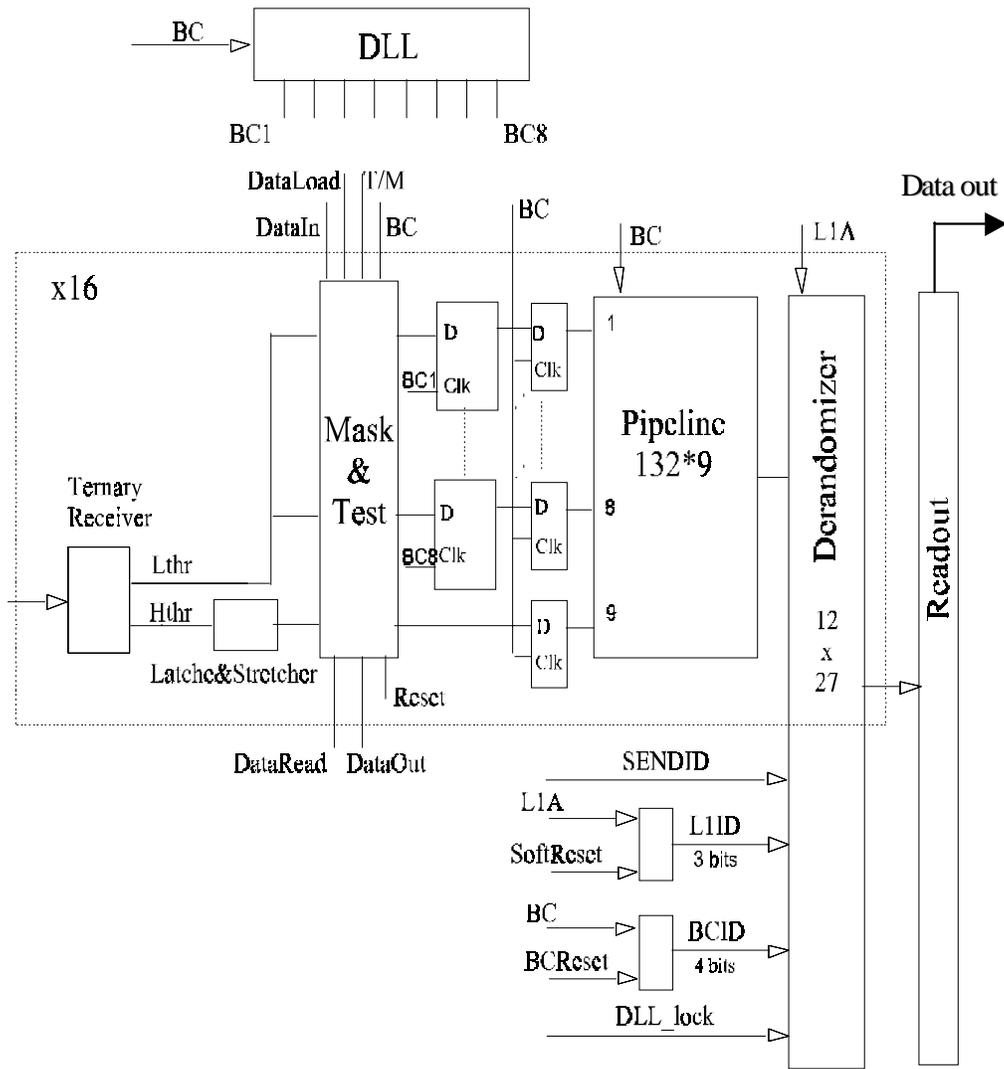

Figure 2-1 Block diagram of the main data flow.
In order to avoid timing problem, an additional flip-flop clocked with BC at a well controlled phase with respect to BC1 and BC8 is introduced (see Fig 2-1). The architecture of the DTMROC99 might not guarantee proper latching into the PIPELINE over the full process/temperature/voltage/radiation variations. In particular, a race condition is observed in ELDO simulations for the FAST-FAST (FF) conditions (Fast process: 5.5V, 25C). Margin or hold time after latching is less then 2ns. It was decided to design to meet irradiated-slow-slow (ISS: 4.5V, 85C, irradiated) conditions, and to decrease the power supply voltage if necessary to meet FF conditions.